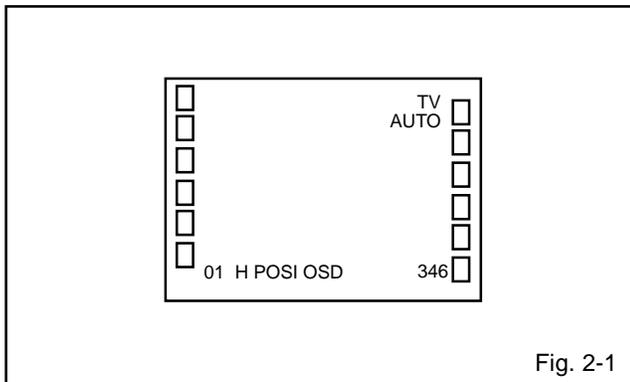

Fig. 2-1
1. Put Masking Tape (cotton tape) around the Flat Package IC to protect other parts from any damage. (Refer to Fig. 2-1.)
2. Press the VOL. DOWN button on the set and the channel button (9) on the remote control for more than 2 seconds to display adjustment mode on the screen as shown in Fig. 2-1.
3. Activate the adjustment mode display of Fig. 2-1 and press the channel button (36) on the remote control to select "CONTRAST MAX".
8. Activate the adjustment mode display of Fig. 2-1 and press the channel button (36) on the remote control to select "CONTRAST MAX".
15. Activate the adjustment mode display of Fig. 2-1 and press the channel button (36) on the remote control to select "CONTRAST MAX".
20. Activate the adjustment mode display of Fig. 2-1 and press the channel button (36) on the remote control to select "CONTRAST MAX".
5. Activate the adjustment mode display of **Fig. 2-1** and press the channel button **(03)** on the remote control to select "R DRIVE (N)".
6. Press the CH. UP/DOWN button on the remote control to select the "R CUTOFF (N)", "B.DRIVE(N)", "B CUTOFF (N)", "R DRIVE (C)", "R CUTOFF (C)", "B.DRIVE(C)", "B CUTOFF (C)", "R DRIVE (W)", "R CUTOFF (W)", "B.DRIVE(W)" or "B CUTOFF (W)".
7. Adjust the VOL. UP/DOWN button on the remote control to whiten the R CUTOFF (N), B.DRIVE(N), B CUTOFF (N), R DRIVE (C), R CUTOFF (C), B.DRIVE(C), B CUTOFF (C), R DRIVE (W), R CUTOFF (W), B.DRIVE(W) and B CUTOFF (W) at each step tone sections equally.
5. Activate the adjustment mode display of **Fig. 2-1** and press the channel button **(28)** on the remote control to select "BRIGHT CENT".